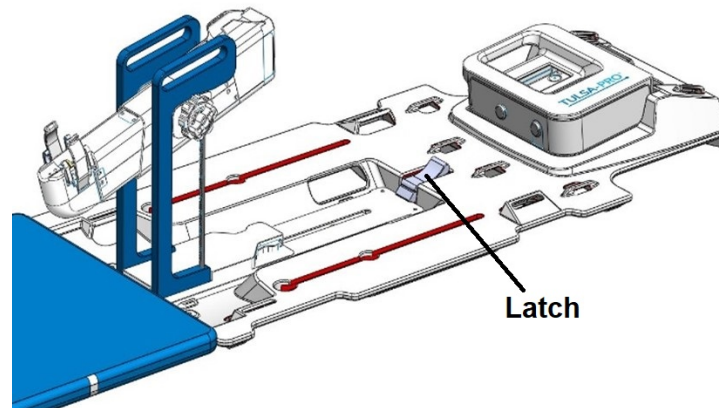

Figure 25: Secure the Positioning System using the latch on the base plate
2. **MRI Technologist:** Ensure that the slot for the PSIB is clear. Place the PS and PSIB in their respective slots on the base plate. Secure the Positioning System (PS) to its slot on the base plate between the patient's legs by snapping it into the latch (*Figure 25*).